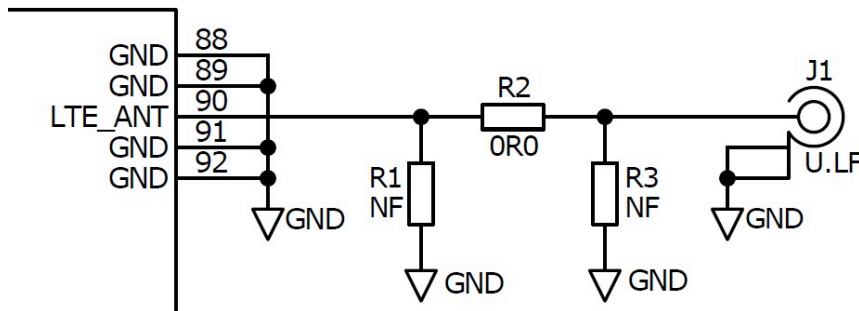

Figure 10. RF Typical Circuit
**!** **Important:** Figure 10 (on page 32) must be strictly followed as a topology reference. It is advised to copy the schematics verbatim. This document also describes the imperative layout constraints.
As Figure 10 (on page 32) shows, use a  $\pi$  or T-type network for matching, if needed. This document shows  $\pi$ -type networks, but T-type are equally acceptable.
Engineering and Production teams need 50  $\Omega$  termination points, for example J1 in Figure 10 (on page 32), for the assessment of the RF performance.